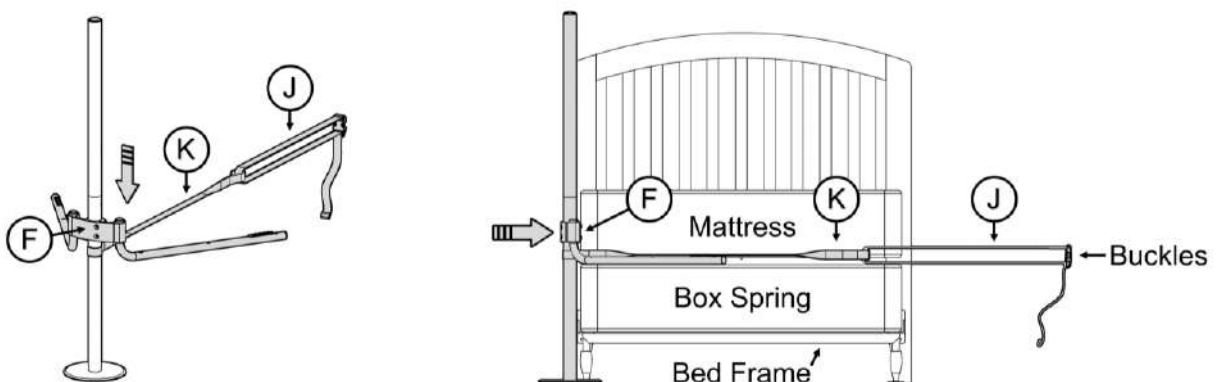

FIGURE 5
5. First, put free loop of **K** over top of pole and slide down. Place **F** with legs attached over top of pole as shown and slide down. Twist the assembly if needed to help it slide down. **K** should be under **F**. Place legs directly on box spring or bed frame. Push entire assembly so that there is no gap between **F** and mattress. Pull buckles on **J** to opposite side of bed. *FIGURE 5*